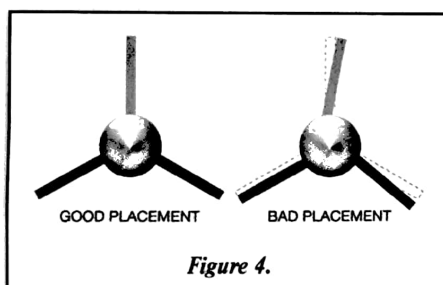

Figure 4.
b. It is especially important to make sure the fins are all the same size and are aligned parallel to the tube and are equally spaced around the body tube. See Figure 4. One crookedly mounted fin can cause a rocket to fly radically off course. Skilled model rocket build-